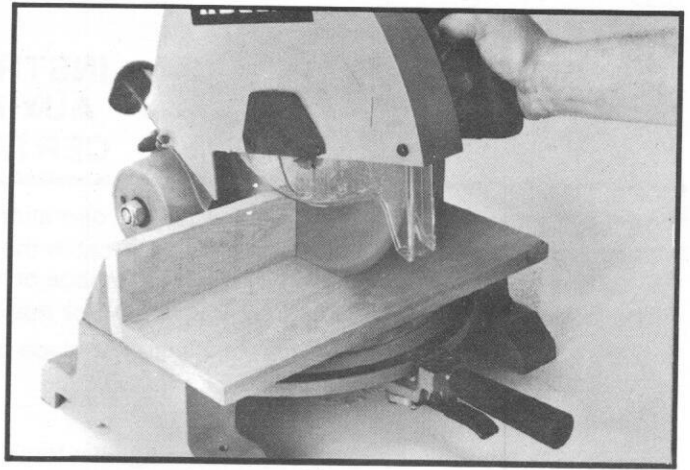

Fig. 4
4. When using the auxiliary fence and table for straight 90 degree cuts, cut a slot in the wooden fence and table, as shown in Fig. 4.